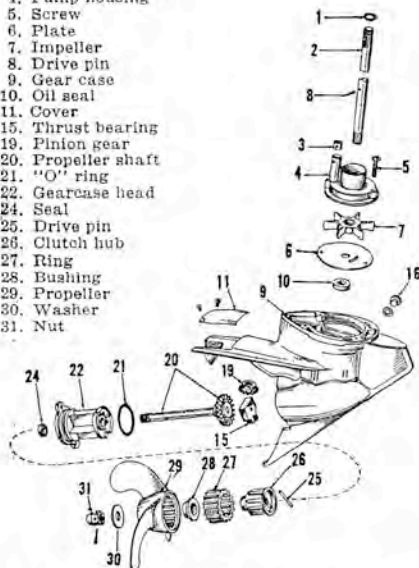

Fig. E28—Exploded view of lower unit gear case, propeller and water pump assembly used on Lightwin motors. "O" ring (1) seals upper drive shaft splines.
PROPELLER AND DRIVE PIN. Cushioning protection of propeller and drive unit is provided by a shock absorber built into drive shaft on Fisherman and Fleetwin motors; and into propeller hub on all other models. Service consists of renewing rubber clutch ring (27—Fig. E28) on Lightwin and Ducktwin; the pinion shaft (10—Fig. E30) on Fisherman and Fleetwin; or the propeller on other models. The lower drive shaft clutch should release at a torque of 155-225 inch-pounds on Fisherman and Fleetwin. Propeller slip clutch should release at a torque load of 84-104 ft.-lbs. on Sportwin motors; or 65-100 ft.-lbs. on Fastwin.
Lightwin and Ducktwin. When reassembling lower unit, check "O" ring seal (21—Fig. E28) to make sure it and seating surface is in good condition. Renew oil seal (10) whenever unit is disassembled. Coat